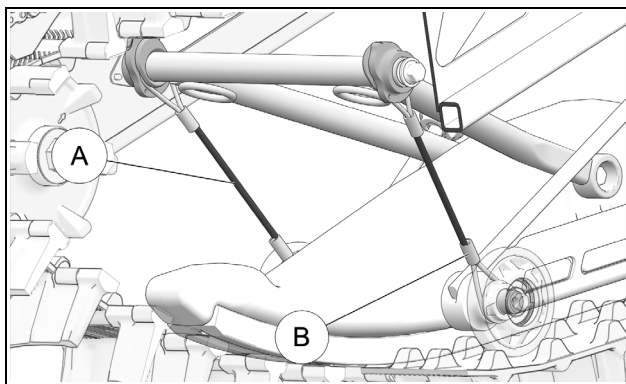

Figure 37
Inspect condition of Suspension Cables (A). If it shows abnormal wear or broken strands anywhere along its length, replace the cables. Verify that the sleeves (B) are in good condition and strong. Replace the cables if the sleeves are defective. Figure 37.